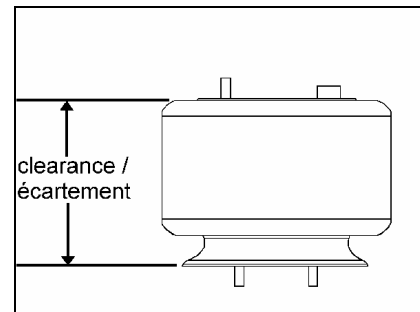

FIGURE 4 : CLEARANCE MEASUREMENT
5. With the uprights safely supported, lower the vehicle until the air spring clearance is $11\frac{11}{16} \pm \frac{1}{4}$ " (297±6 mm). Measurement should be taken from under the upper air spring support to top of the lower air spring support (figure 4).
5. With the upright safely supported, lower the vehicle until the air spring clearance is $11^{11}/16 \pm 1/4$ " (297±6 mm). Measurement should be taken from under the upper air spring support to top of the lower air spring support (figure 4).